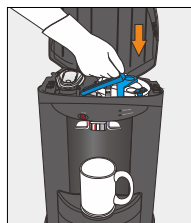

Figure 40
14. Close the locking clip to secure water outlet tubing in place (Figure 40)